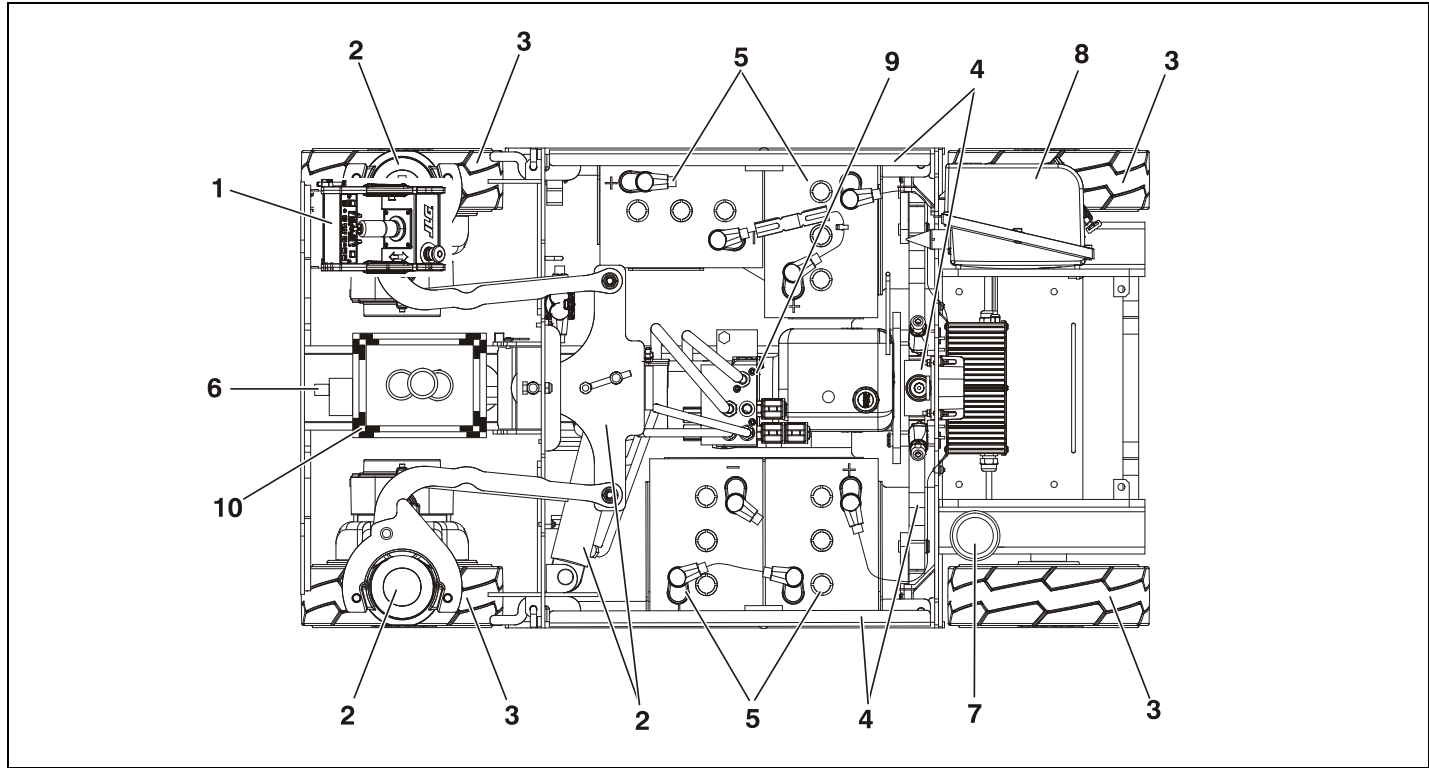

Figure 2-1. Daily Walk-Around Inspection (Shown Top View Cutaway).
5. **“Walk-Around” Inspection** – Refer to Figure 2-1. on page 2-8.
Begin the “Walk-Around Inspection” at Item 1, see Figure 2-1. on page 2-8. Continue checking each item in sequence for the conditions listed in the following checklist.